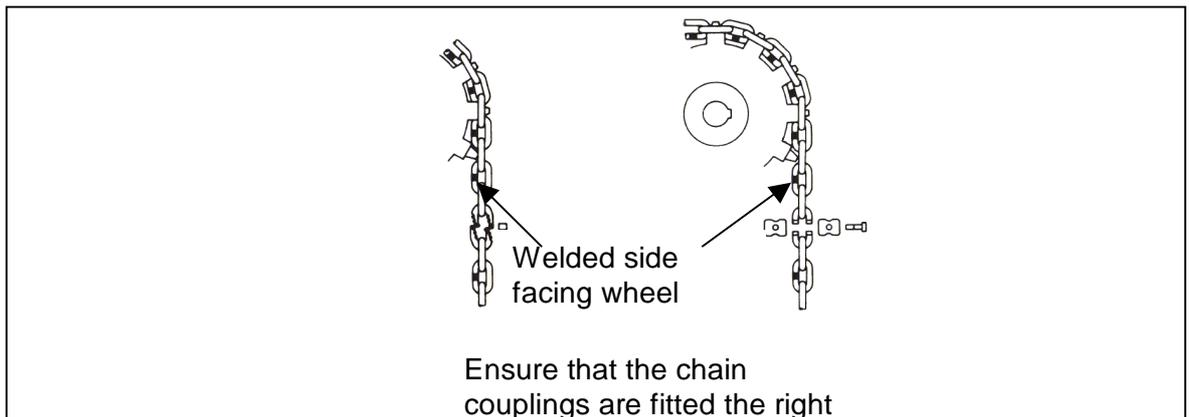

Fig. 5
4.4 Pull the connected chain strands into the system (fig. 5).
The welded joints of the vertically arranged links must face the wheel center when they pass over the sprocket wheels and chain wheels (fig. 5). Otherwise, bending and tensile stresses could lead to the welds breaking.